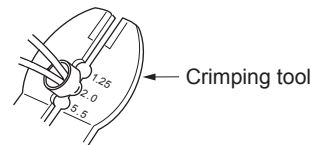

Fig. 1-1-6
d) As shown in Fig. 1-1-6, use the crimping tool to crimp the metal sleeve at the center position. Be sure to crimp fully to the complete closure of the tool.